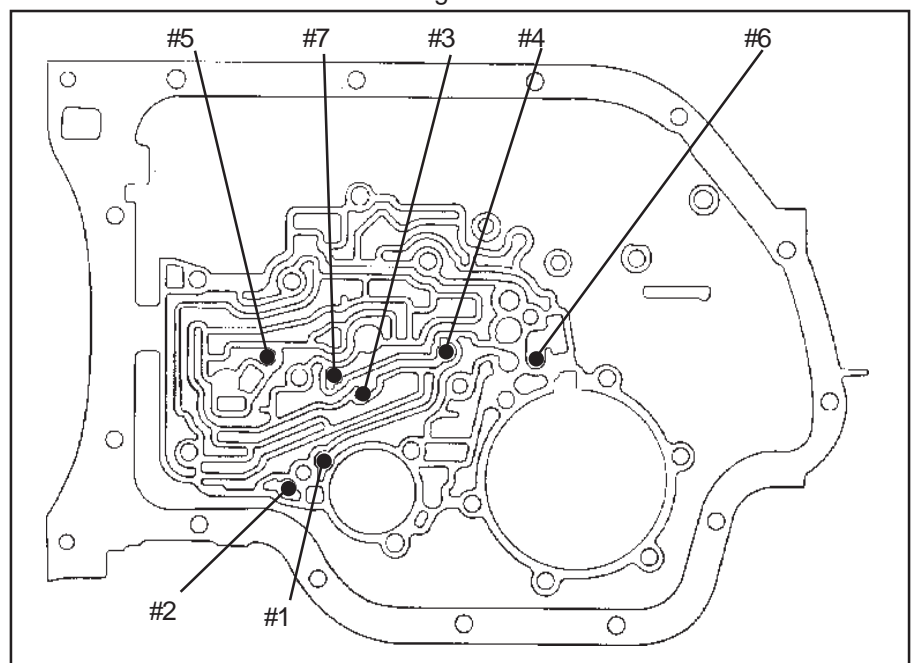

Figure 10
**STEP 9.** Check Ball Placement: Install check balls in the locations shown in **Figure 10** as follows: